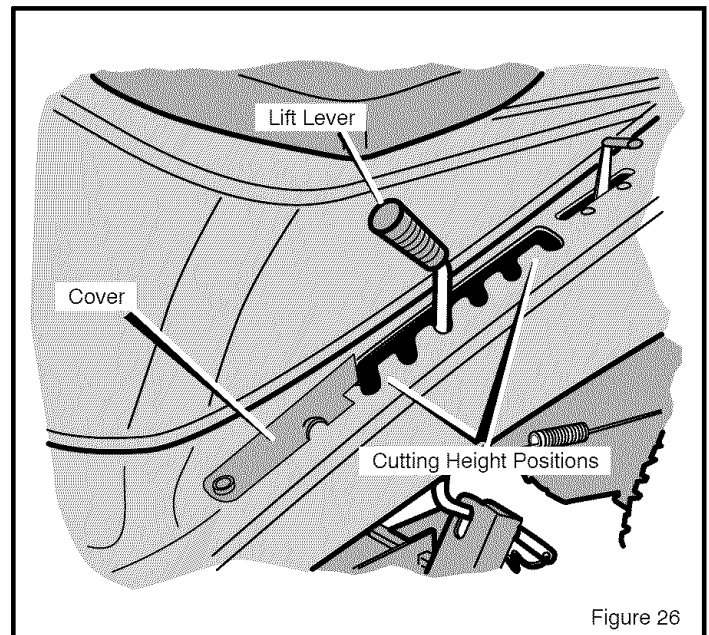

Figure 26
9. Raise the **lift lever** from the LEVEL ADJUSTMENT position to a CUTTING HEIGHT position (Figure 26).